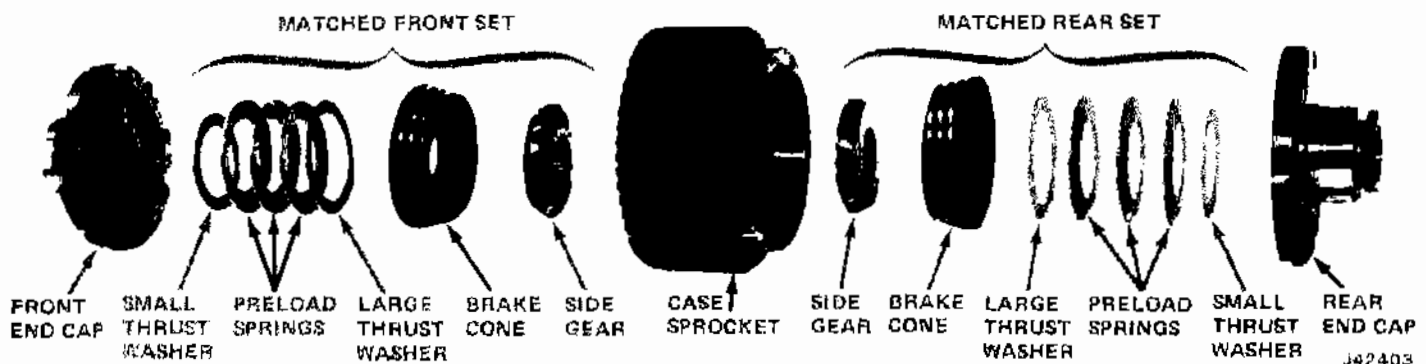

Fig. 8-50 Differential Unit Assembly Sequence
(1) Slide pinion mate shaft into case sprocket about three inches.
(2) Place pinion mate thrust washers and gears on shaft in proper order.
(3) Align pinion mate shaft lockpin hole with lockpin hole in case sprocket. Lightly drive pinion mate shaft into case sprocket until lockpin holes are exactly aligned.
(4) Slide pinion mate gears apart until gears are pressing washers against case sprocket (fig. 8-50).
(5) Mesh appropriate (front or rear) side gear into pinion mate gears.
(6) Position appropriate brake cone over gear and into case sprocket.
(7) Place large thrust washer on brake cone.
(8) Place preload springs against thrust washer with concave side of all springs facing brake cone.
(9) Lubricate small thrust washer and position it on appropriate end cap.
(10) Place end cap and thrust washer onto end of case sprocket.
(11) Loosely install attaching screws. Alternately and evenly tighten all screws to 24 to 30 inch-pounds torque.
(12) Invert case sprocket and end cap.
(13) Install pinion shaft lockpin into case sprocket and through pinion mate shaft.